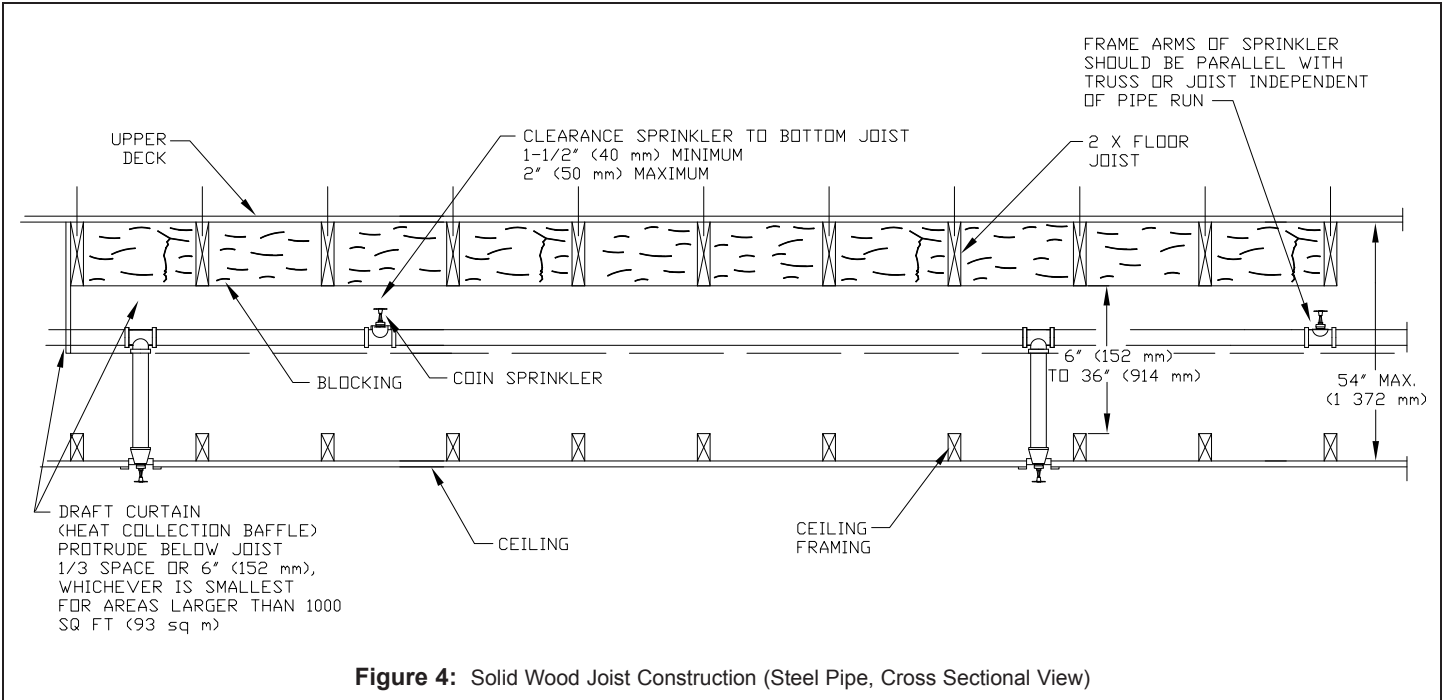
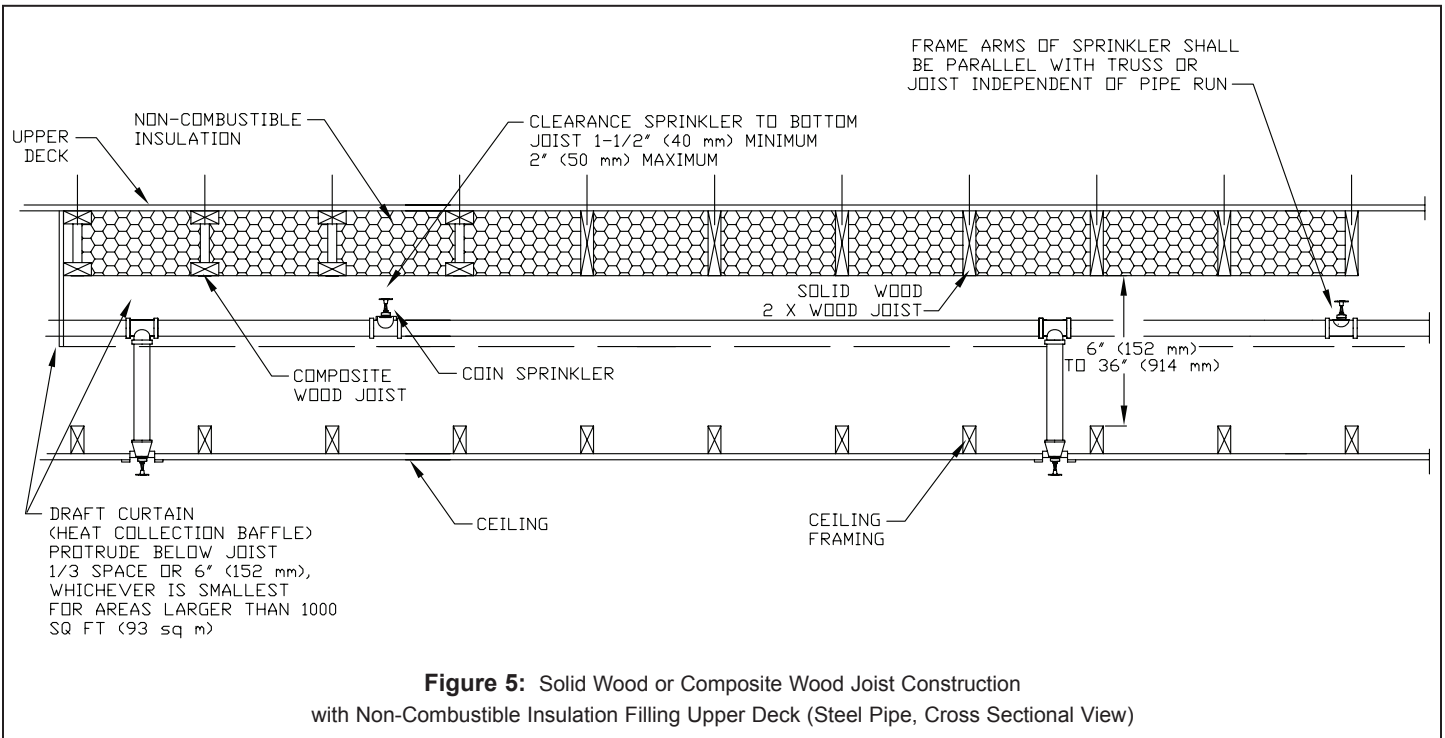

Figure 4: Solid Wood Joist Construction (Steel Pipe, Cross Sectional View)
Figure 5: Solid Wood or Composite Wood Joist Construction with Non-Combustible Insulation Filling Upper Deck (Steel Pipe, Cross Sectional View)
DESIGN CRITERIA - STEEL PIPE (See Figures 4, 5, and 6)
- Maximum space from bottom of upper deck to ceiling surface (bottom of joist): 54" (1 372 mm). See Figure 4.
For solid wood joist without insulation (Figure 4) or solid or composite wood with non-combustible filled joist (Figure 5):
The remote area for wood truss construction or bar joist construction (Figure 6) or solid wood joist construction (Figure 4) is 1000 sq ft (93 sq m) for wet pipe systems or 1,300 sq ft (121 sq m) for dry pipe systems.
The remote area for non-combustible insulation filled solid wood joist or wood composite joist construction (Figure 5) is to be calculated per the requirements of NFPA 13.